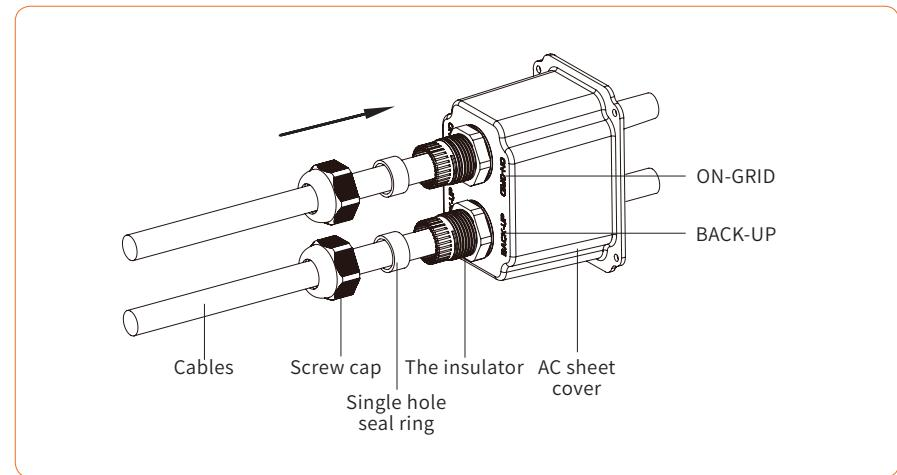

Figure 4-28
- ② Insert the stripped AC cables through the AC connector cover in the sequence as shown in Figure 4-28: